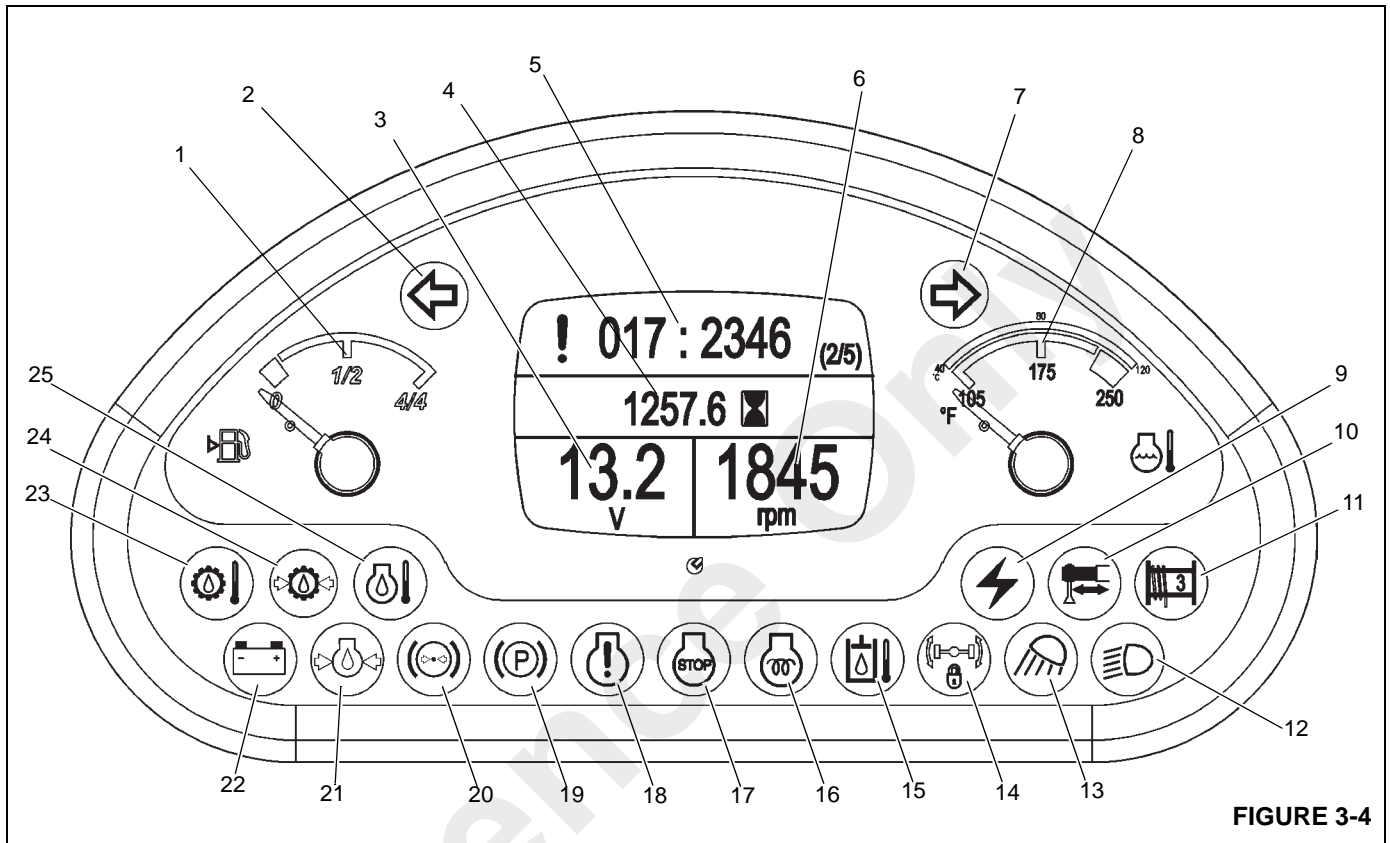

FIGURE 3-4
(Figure 3-4) Item Numbers
The Fuel Gauge (1) (Figure 3-4) indicates the quantity of fuel in the fuel tank and has a scale calibrated from 0 (empty) to 4/4 (full). The fuel gauge receives a signal from a sending unit in the fuel tank.
If the condition persists, the stop lamp (17, Figure 3-4) will flash to warn the driver that the engine should be shut down and the problem resolved before starting the engine again.